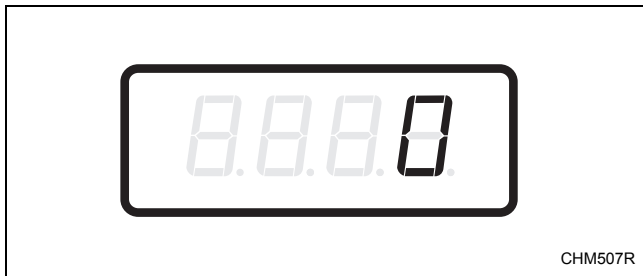

Figure 25
2. When “SA15” appears in the display, press the START (enter) keypad. There are five digits in the Special Vend A Perm Press Warm Vend Price. The fifth digit will appear in the display and will flash one (1) second on and one (1) second off. Refer to *Figure 25*.